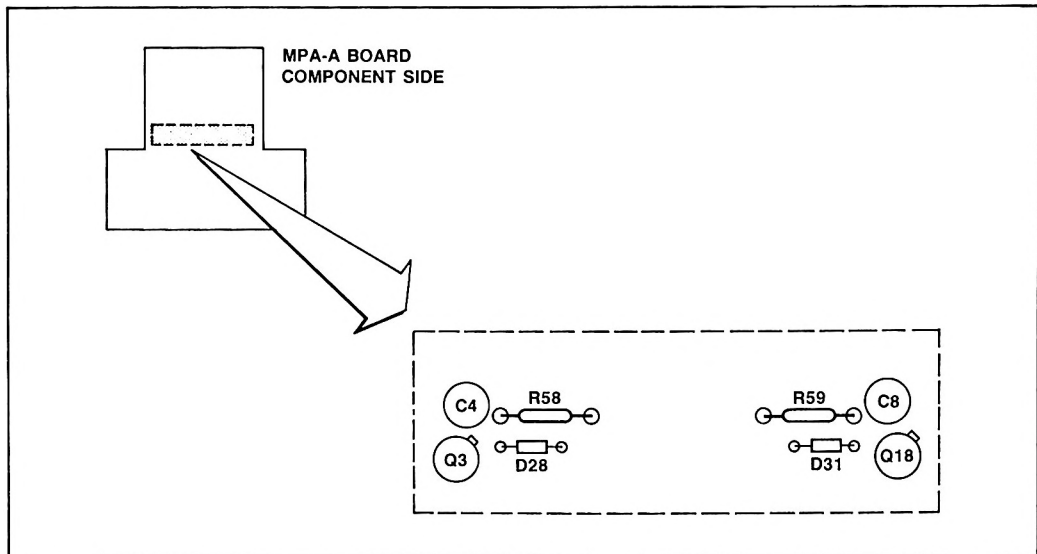

Figure 1
1. Add 10k ohm metallic resistors (R58 and R59) to board using existing pads. (See Figures 1 and 2.)